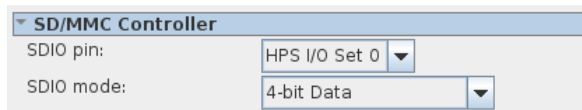

Figure 9-9. SD/MMC configuration
- Configure "SDIO pin" to "HPS I/O Set 0" and "SDIO mode" to "4-bit Data", as shown in Figure 9-9.